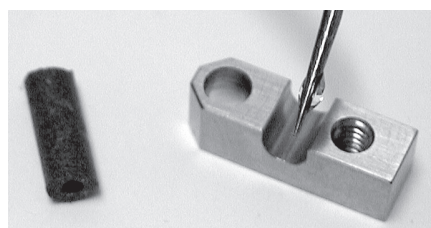

Figure 27A: Place glue
2. Using a fine needle, place a tiny droplet of cyanoacrylate adhesive ("super glue", preferably a formulation for porous surfaces) into the groove of the top component (Figure 27A). Follow the glue manufacturer's guidelines for proper handling and safety precautions.